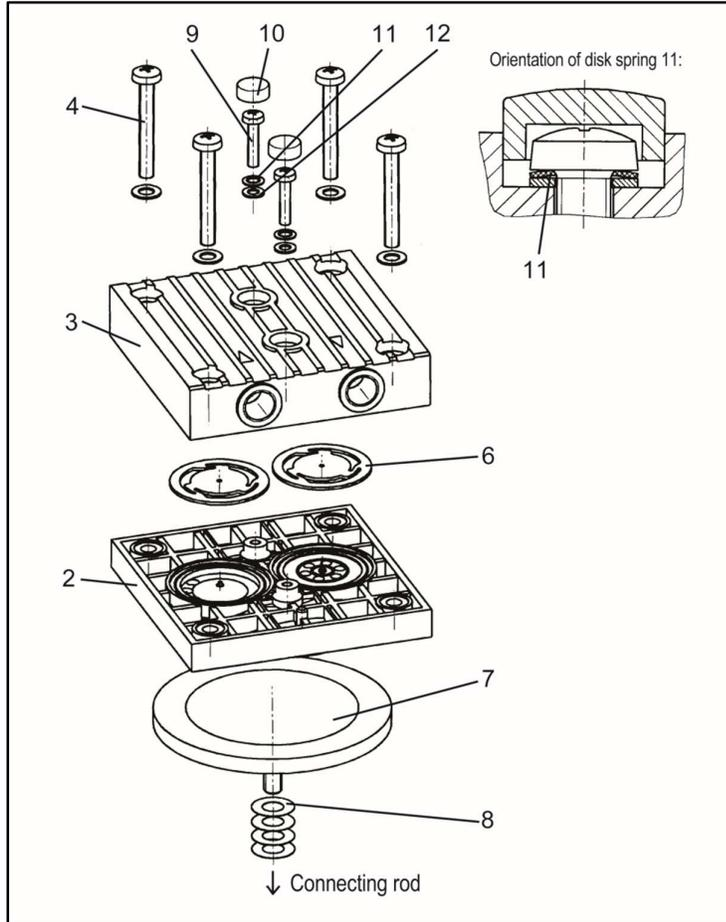

Fig. 30: Pump head UN 828 KN_-versions (pump head made of plastic)
1. Use a small screwdriver to remove the two screw caps (10) on the pump head and then undo the screw(s) (9).
2. Separate the head plate (3) from intermediate plate (2).
3. Remove the valve plates/sealings (6) from the intermediate plate.
5. Lay the new valve plates/sealings (6) in the recesses in the intermediate plate (2). The valve plates/sealings for suction and pressure sides are identical, as are upper and lower sides of the valve plates/sealings.
7. Place the head plate (3) on the intermediate plate (2), in the position indicated by the marking (M).
8. Check that the head plate (3) is centered by moving it gently sideways.
9. Join the head plate (3) and the intermediate plate (2) by tightening the two screws (9) with disk spring (11) and washer (12). For orientation of disk spring (see Fig. 30).